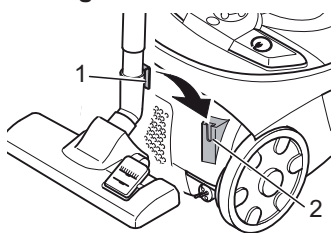

Fig.14
■ When **setting the appliance aside** or during work breaks, you can hook the parking hook (Fig. 14/1) for the floor nozzle into the parking hook mount (Fig. 14/2). Beforehand, you must lower the telescopic tube completely.